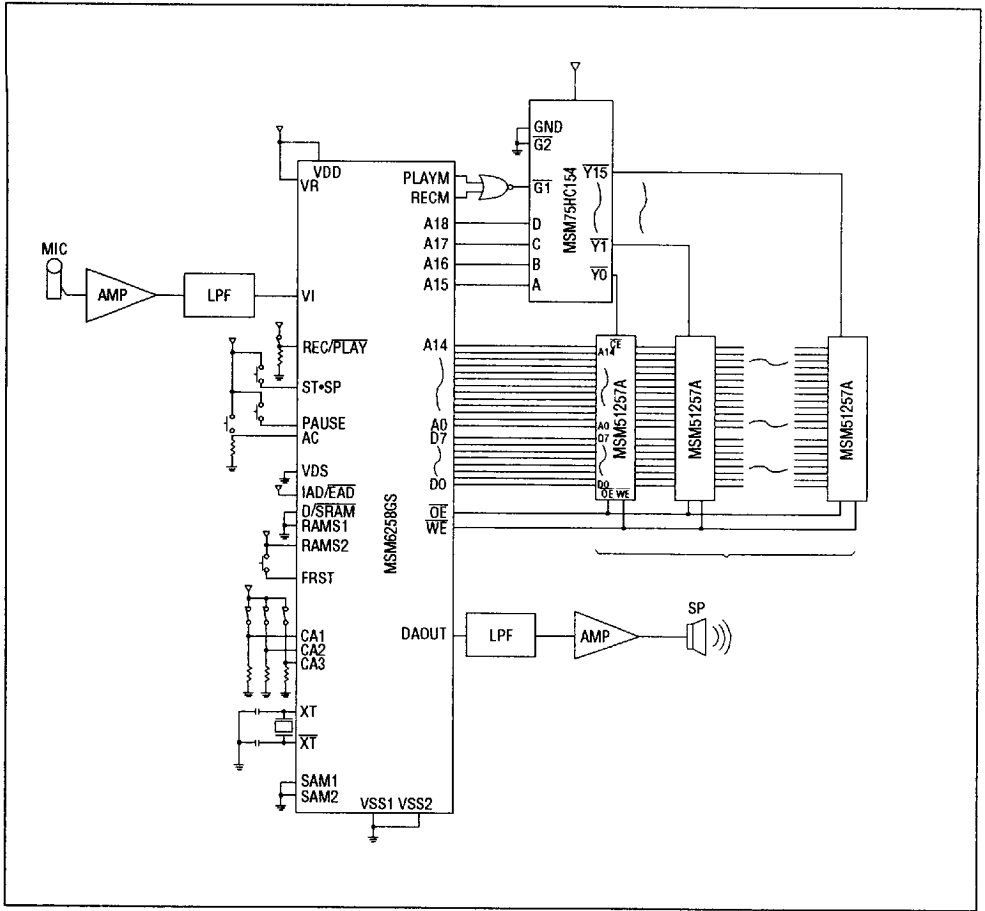

Figure 25 Application Note for 256K SRAM (Use 16 pcs)
- Figure 25 shows an example of interface with 256K SRAM.